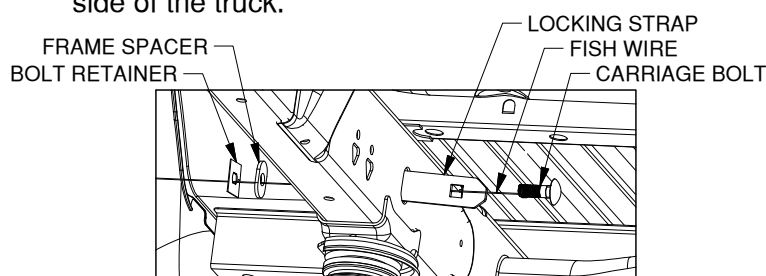

**Figure B2:** Detail view over bed, showing drill locations for the forward and rear mounting rails.
2. **Mark hole locations.** While carefully ensuring the mounting rail does not move, use a center punch tool to mark the 5 drill locations on the rear rail. See Figure B2 for hole marking locations for this installation (forward rails will install in a later step). Once all 5 rear rail locations are clearly marked, move the bed rail out of the way and drill each location with an 1/8" drill bit.
4. **Drill forward mounting holes.** Using the same methods as used for the rear mounting rail, mark, drill, check, and enlarge the holes for the forward mounting rail. Start at "DRILL REAR MOUNTING HOLES" section, Step 2, on a previous page. Notice that the hole locations are slightly different than the rear rail, see Figure B2 (on the third page).